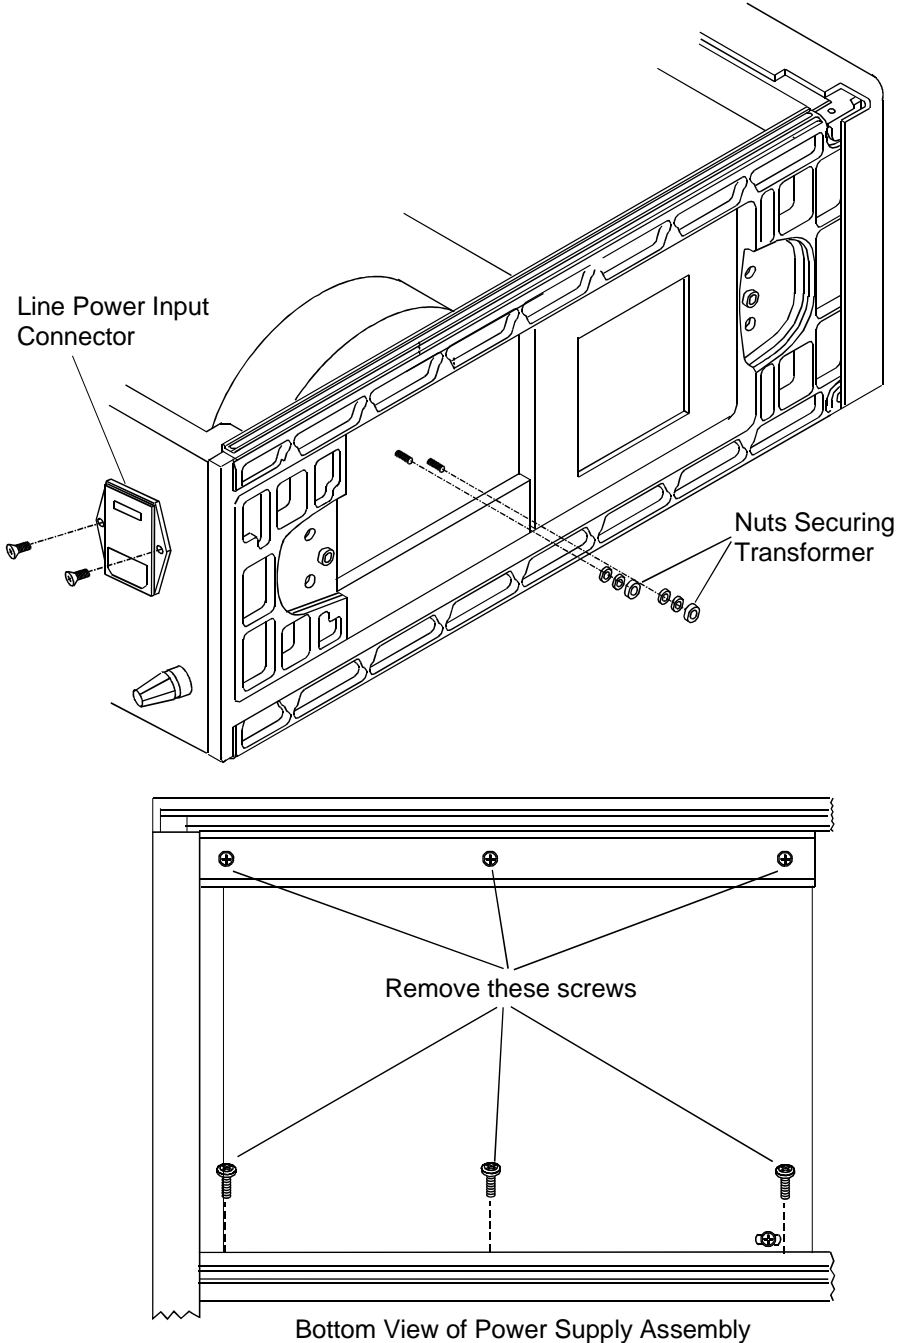

Figure 6-5. *Power Supply Removal*
- Step 2.** Remove two screws from the Line Power Input connector (Figure 6-5).
- Step 6.** Remove six screws that fasten power supply PCB assembly to chassis (Figure 6-5).
- Step 7.** Remove two nuts that fasten power supply toroidal transformer to chassis (Figure 6-5).